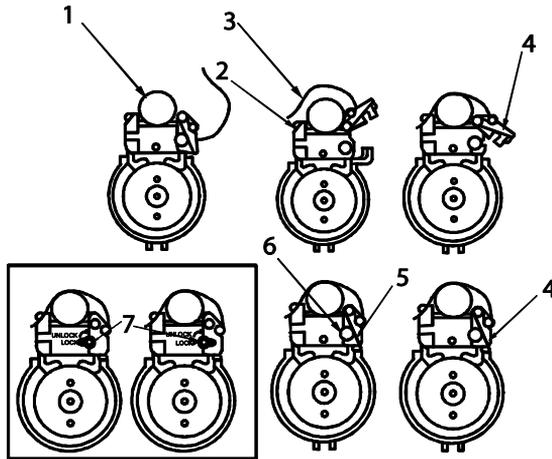

Figure 8 QRB Installation
4. Close latch arm (Figure 8, Item 3) over barrel (Figure 8, Item 1) and catch latch hook (Figure 8, Item 2) in hole.
5. Rotate latch lever (Figure 8, Item 4) down.
Ensure retaining spring (Figure 8, Item 5) does not engage plunger during this step.
6. Old version QRB. Engage plunger (Figure 8, Item 6).
New version QRB While engaging plunger (Figure 8, Item 7), rotate plunger clockwise until it stops in the unlocked position.
7. Old version QRB. Squeeze latch lever (Figure 8, Item 1) fully closed, release plunger (Figure 8, Item 1).
New version QRB plunger (Figure 8, Item 7) will snap forward and then must be rotated counter-clockwise until it stops in the locked position.